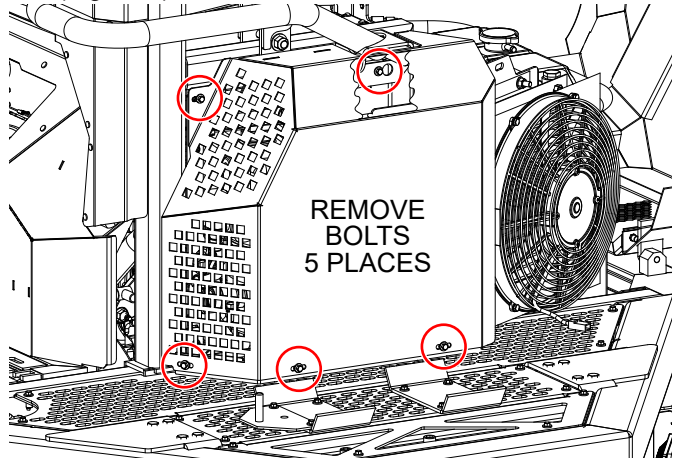

Figure 7. Hydraulic Oil Reservoir Cover Removal
4. The hydraulic oil reservoir cover will need to be removed in order to access the hydraulic oil fill cap. Remove the five bolts securing the cover to the frame (Figure 7). Set the cover and bolts aside.